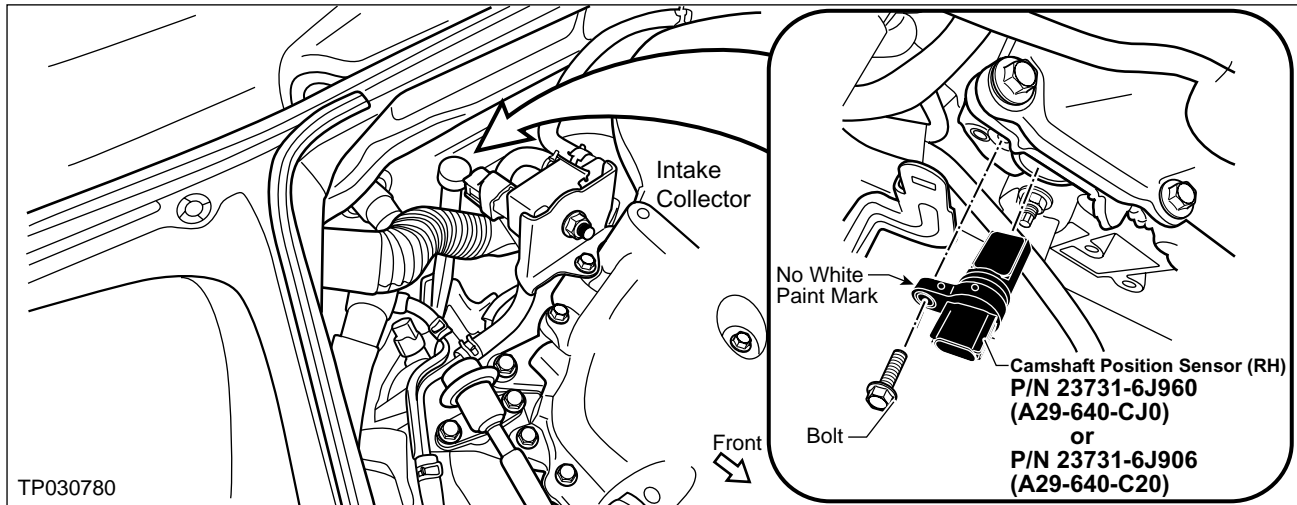

Figure 17
1. Locate the passenger side (RH) **Camshaft Position Sensor** (see Figure 17).